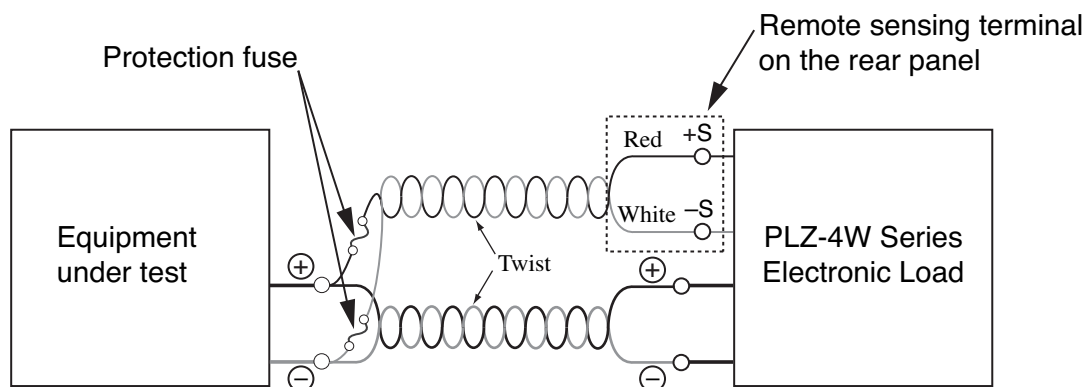

Fig. 6-21 Remote sensing wiring
- Accidents can be prevented by connecting a protection fuse as shown in Fig. 6-21. Use a fuse with a rated current of 0.5 A and a rate voltage greater than the output voltage of the equipment under test.